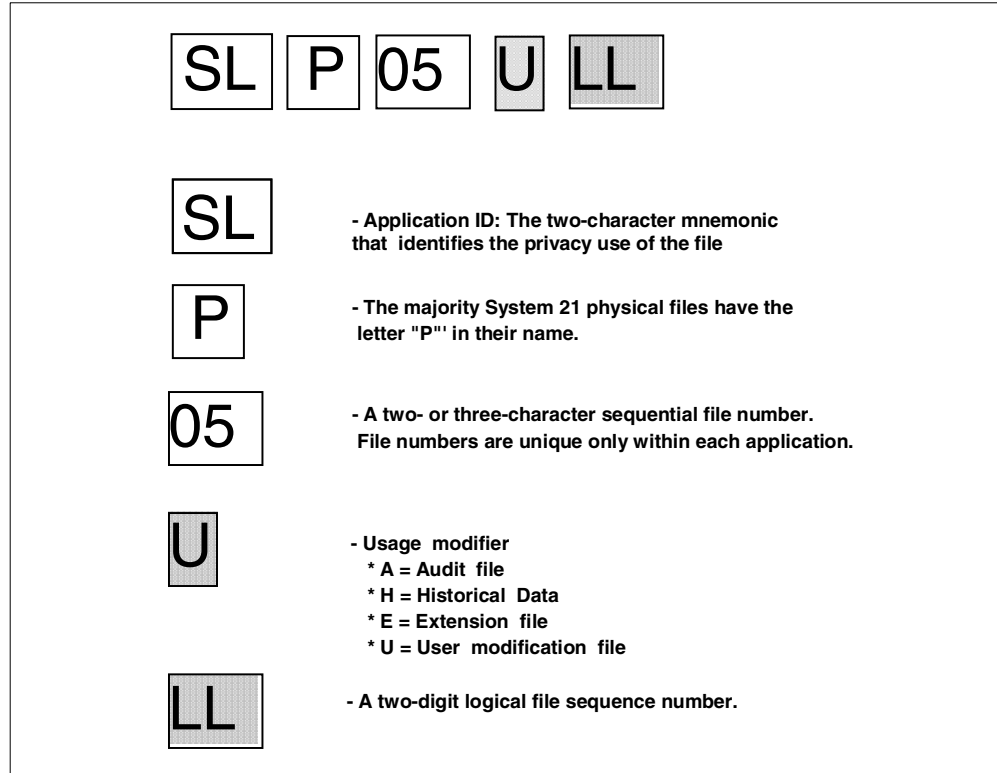

Figure 227. Data file naming convention
- **Data Files:** Figure 227 illustrates the naming convention for data files.